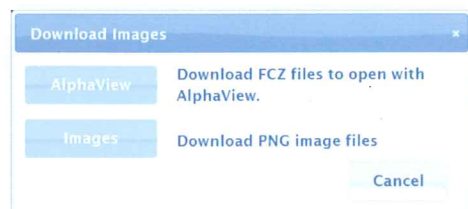

Figure 9
2. Select the **AlphaView** button in the download dialog box (Figure 9).